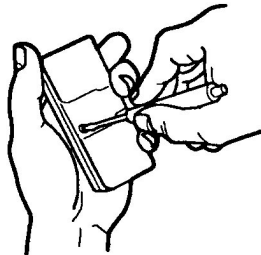
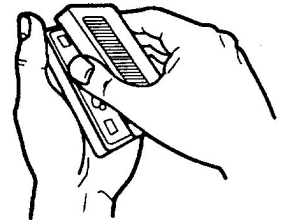

FIGURE 1
FIGURE 2
**PROCEDURE:** With visor clip off, remove screw in the original and any new transmitter as illustrated in Figure 1. Carefully turn cases over (push button sides up). Remove case tops as shown in Figure 2. **CAUTION: Be careful not to move circuit board components.**